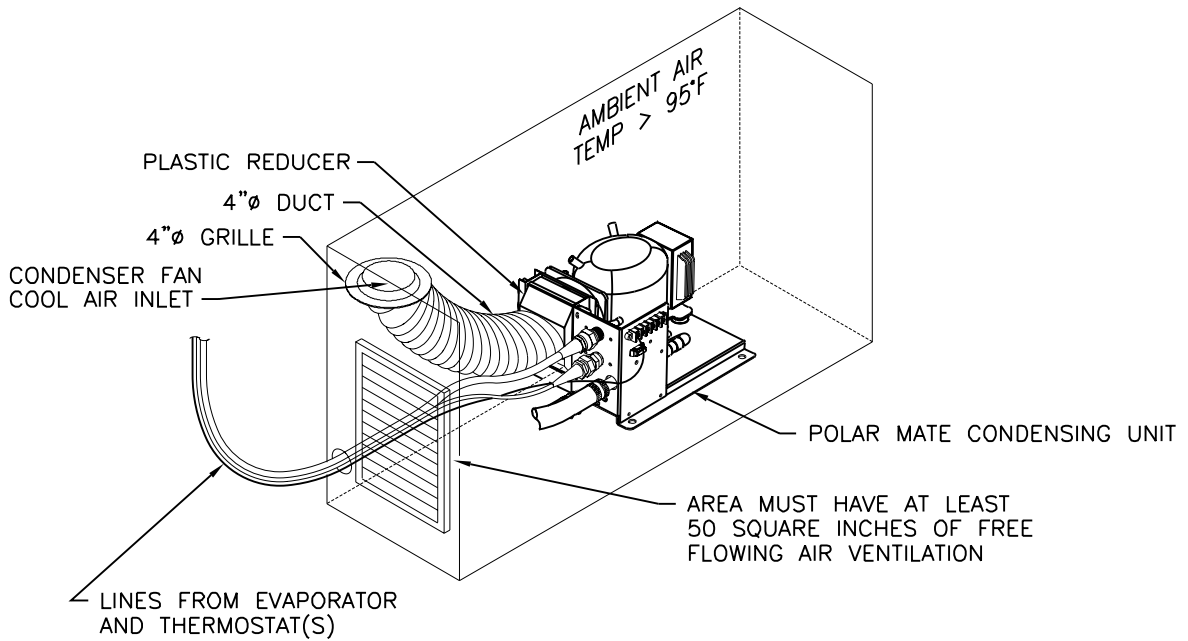

Fig. 6 Refrigerator/Freezer Configuration with Optional Spillover Kit.
- Fig. 6 Refrigerator/Freezer Configuration with Optional Spillover Kit**